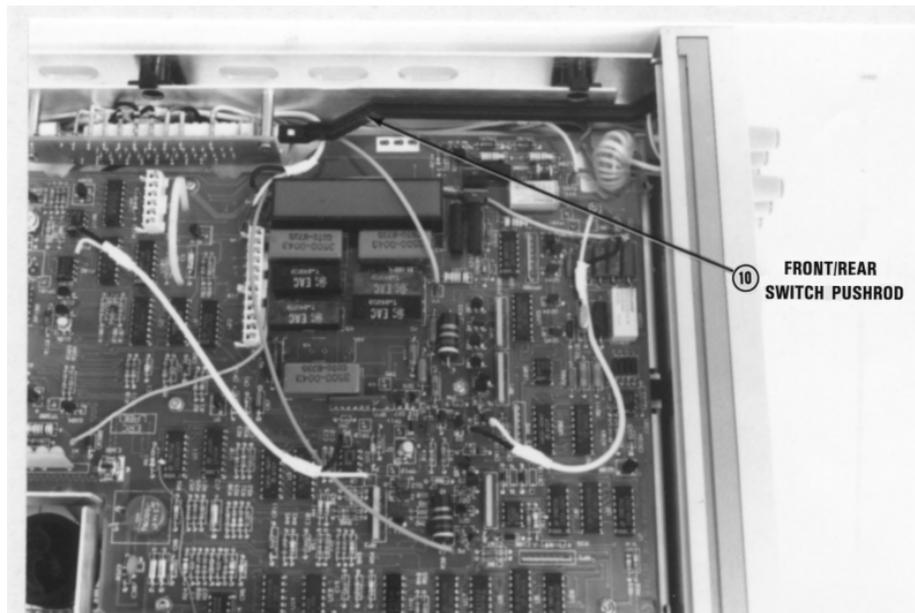

Figure C-8 Front/rear terminal switch and pushrod location
- 3** Refer to Figure C-8. Locate the pushrod for the Front/Rear Terminal switch. Pull the pushrod off. You may need to pry the pushrod loose with a small flat blade screwdriver. Set the switch in the position it is to be used.